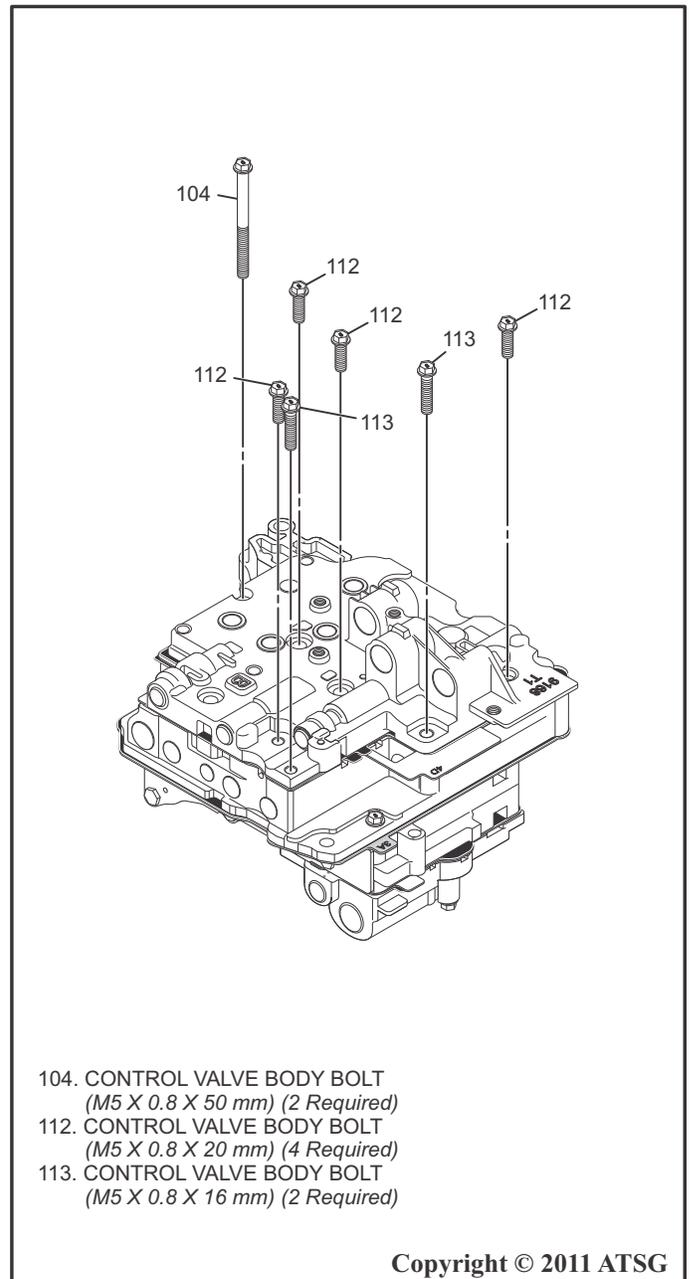

Figure 156
6. Remove the 7 remaining control valve body bolts using an 8 mm socket as shown in Figure 156.